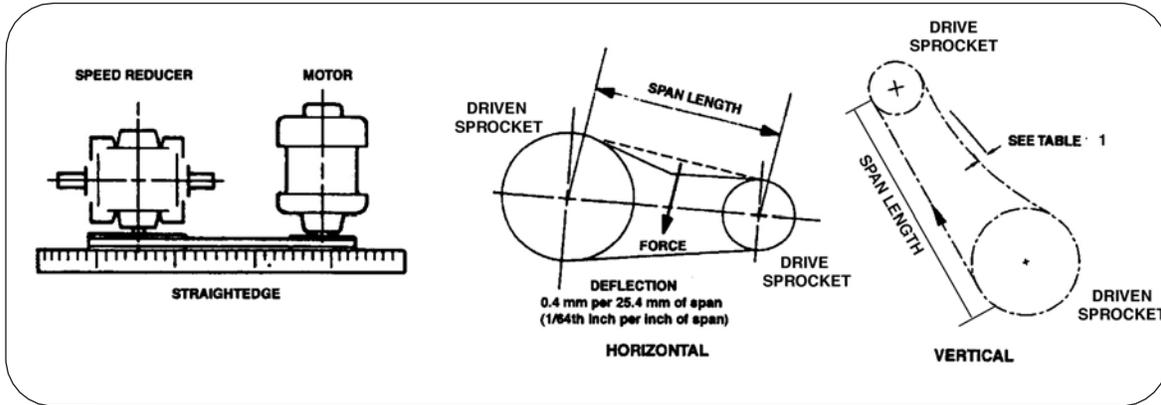

Figure 3. Reducer/Motor Alignment and Tension Adjustment
1. Check sprocket alignment using a straight edge or taut cord stretched across the faces of the drive sprocket and the driven sprocket (Figure 3). The tolerance is ± 0.5 degrees or $1/8$ " per foot (3.5 mm per 0.3 m).
3. Check roller chain tension. Deflection of the span should be as shown in Figure 3 and Table 1.
1. Check the sheave alignment between the motor and speed reducer by placing a straight edge or taut cord across the face of the sheave faces (Figure 3). Inside and outside sheave diameters should be touching the straight edge at all four points as shown in the illustration. Alignment of the sheaves should be within $+ 0.5$ degrees or $1/8$ " per foot (3mm per 0.3 m).
- Measure the span length as shown in Figure 3.
- Check belt tension by pressing firmly on the individual belt. A belt that can be depressed an amount equal to $1/64$ th inch per inch of span (0.4 mm per 25 mm of span) is properly tensioned (Figure 3).
NOTE: The ratchet slip clutch is preset at Jorgensen Conveyors to 1-5/8" (41.3 mm) (Figure 3). Do not compress the spring to anything less than 1-1/2" (8.1 mm) because this would disable the clutch.